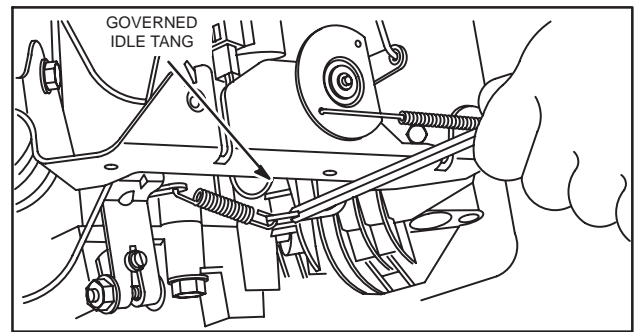

Fig. 23 – Adjusting Governed Idle
3. Bend governed idle tang to obtain 1750 RPM, Fig. 23.